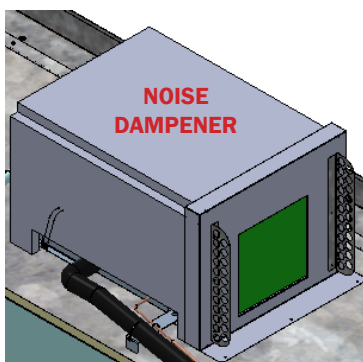

Fig. 63 Low charge housing air-block
9. With piping connections reconnected and electrical junction box installed on low charge cases, the condensing unit balloon guard can be placed back onto the cases using the screws retained from “DOORWAY PREP” step 3 (Fig. 63).